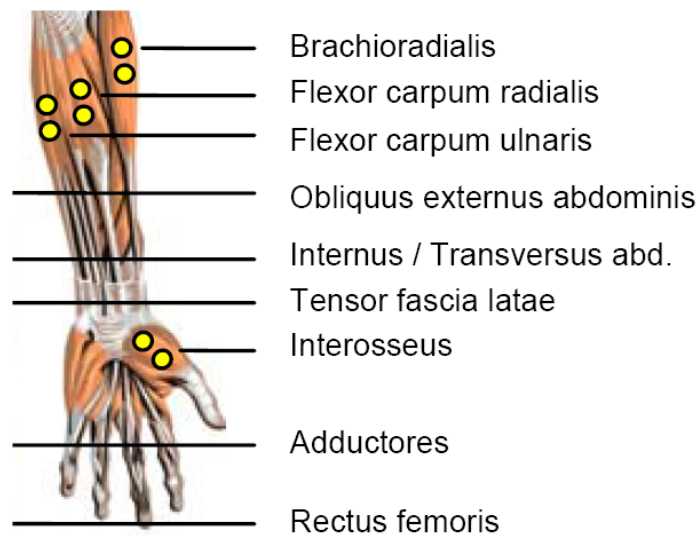

Figure 1: Position of muscles in the forearm. ED is shown in red, ECR in yellow, PL in green and FCU in purple.
2. Once the raw signals are “conditioned”, we must determine the usable range of EMG signal that is available, since the maximum amplitude will vary with each muscle, depending on the size of the muscle, the impedance of the muscle, gain of the amplifier, and other things. We can determine the maximum value for each muscle by generating so-called “maximum voluntary contractions” or MVCs. Once the EMG amplitude associated with the MVC is determined, we can scale all subsequent EMG measurements for a particular muscle group by this MVC value. This procedure is commonly referred to as “normalization”. The amplitude range for the “normalized” EMG values is between 0 and 1. Run the function `findMVC.m`. This determines the MVC amplitude for each muscle. Figure 1 shows an example of MVC data that was collected for 4 different muscles. The muscles are labeled according to their “motion assignments”. These are the directions in which each muscle will be responsible for controlling. For example, we might use the FCU EMG to control “LEFT” movements and ECR to control “RIGHT” movements. The peak EMG values